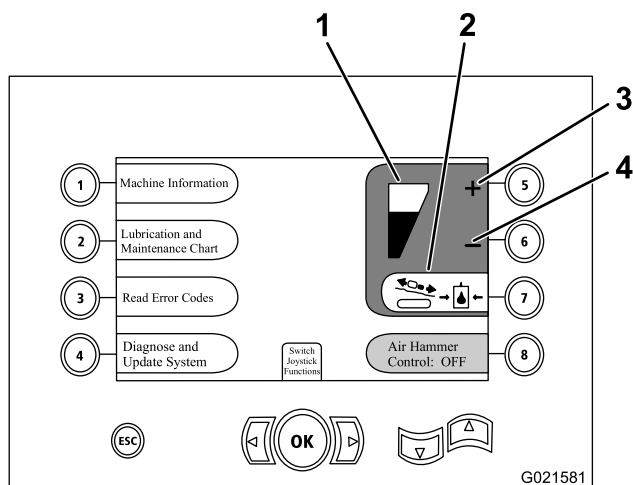

Figure 71
2. Increase or decrease the carriage pressure as follows: (Figure 71).
- Press button 5 on the screen to decrease the carriage pressure (Figure 71).
- Press button 6 on the screen to increase the carriage pressure (Figure 71).
Note: The carriage-pressure gauge (Figure 71) will fluctuate up or down based on how much you increase or decrease the carriage pressure.